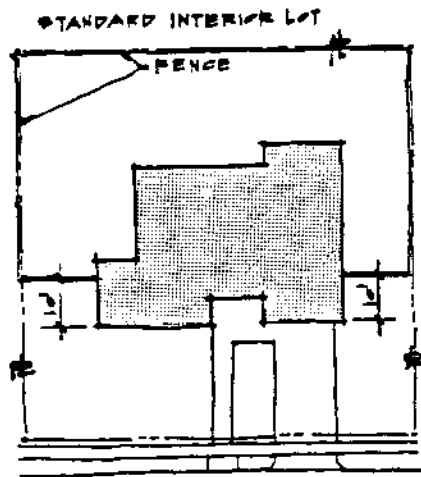

FIGURE 13
- All fences must occur within or along common property lines except at corner lots (Figure 13).